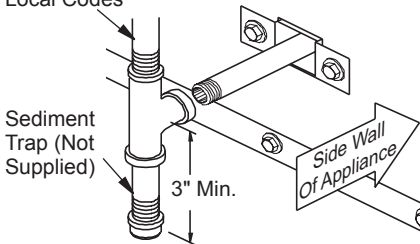

Figure 40 - Sediment Trap
Route a 1/2" NPT black iron gas line towards the appliance coming in from the left. It is recommended to route the pipe between the stand of the firebox and the surround of the fireplace (see Figure 40, page 21).
1. Install a sediment trap between the incoming gas line and the gas control valve (see Figure 40). The sediment trap should extend down the center of the pipe. Refer to your local codes.